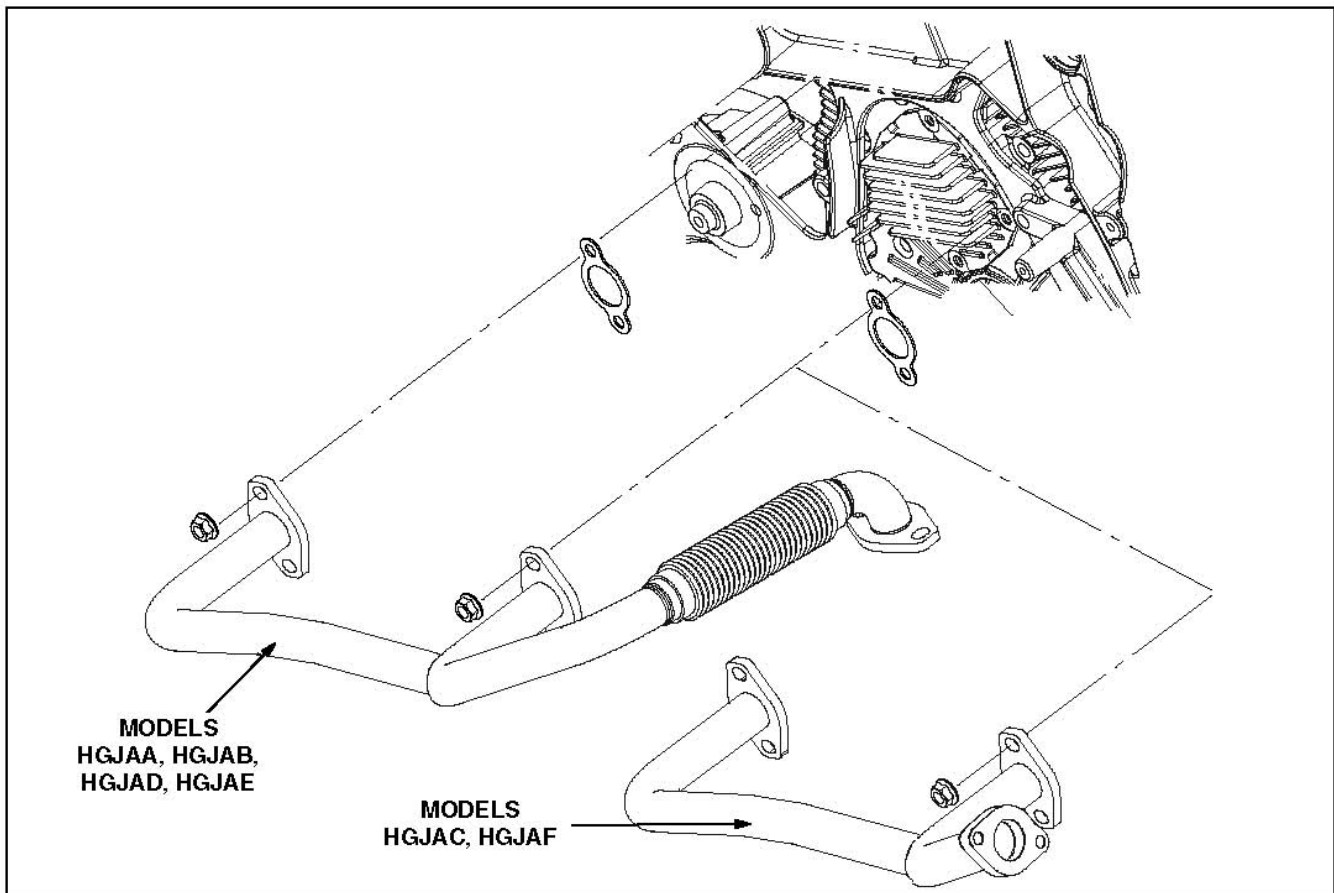

FIGURE 33. EXHAUST MANIFOLD
3. Remove the two flange bolts in each of the two exhaust outlet flanges and remove the manifold (Figure 33).